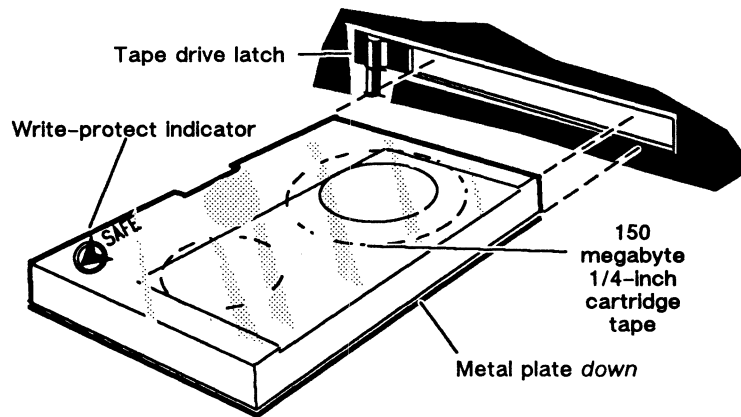

Figure 5-3 Inserting a Scratch Cartridge Tape
3. If you want to test the tape units listed on your screen, you must insert a high density cartridge tape with contents you do not need into each drive you want tested, as shown in Figures 5-3 and 5-4.
- a. Set the write-protect indicator on the high density scratch tape(s) to enable (rather than prevent) writing to the tape. On most tapes, you turn an indicating arrow away from the word "SAFE" etched on the cartridge. (See Figure 5-3.)